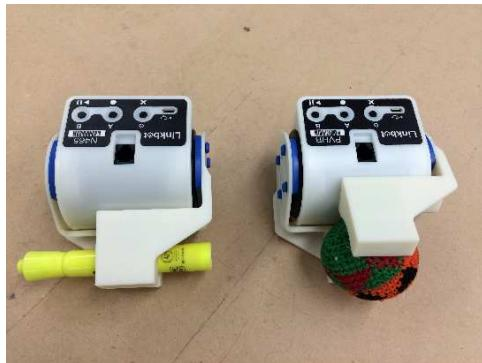

Figure 13.11: A Linkbot-I picks up a pen and hackysack.
5. Run the program `gripper.ch` using a Linkbot-L to pick up a highlighter pen and hackysack as shown in Figure 13.11. The gripper is opened by 90 degrees first, joint 2 rotates by 90 degrees, then close the gripper. Write a program `gripper2.ch` using a Linkbot-I to open the gripper by 90 degrees first, then close the gripper.
- Run the program `opengripper.ch` to open and close a gripper as shown in Figure 13.11 to grab an object.